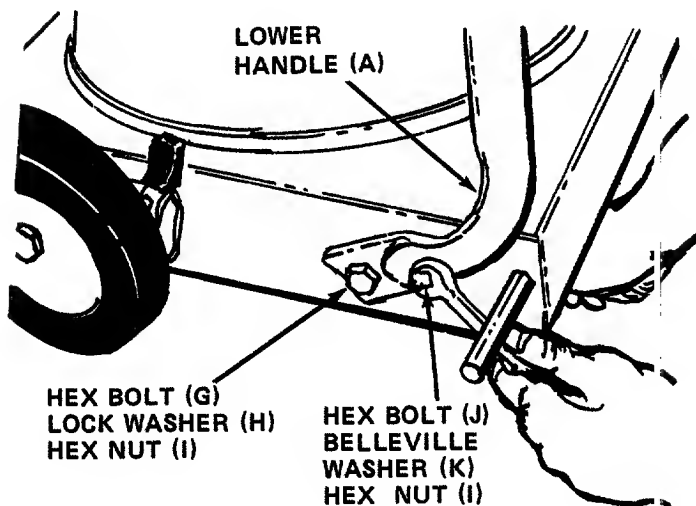

FIGURE 3
3. Place lower handle (A) in position on the vacuum, lining up the holes in the handle with the holes on the frame. See figure 3. Place hex bolts (G) (3/4" long) through lower hole in handle and frame. Secure with lock washers (H) and hex nuts (I) on the inside of frame, finger tight only.
4. Place hex bolts (J) through upper hole in handle and frame. Secure with Belleville washers (K) (cupped side against the frame) and hex nuts (I).